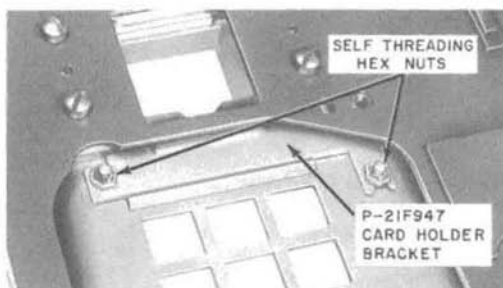

Fig. 16—Card Holder Bracket Installed (TOUCH-TONE)
- (4) Secure window and number card using the P-21F947 card holder bracket and two hex nuts (Fig. 16).
- (5) Install dial housing.